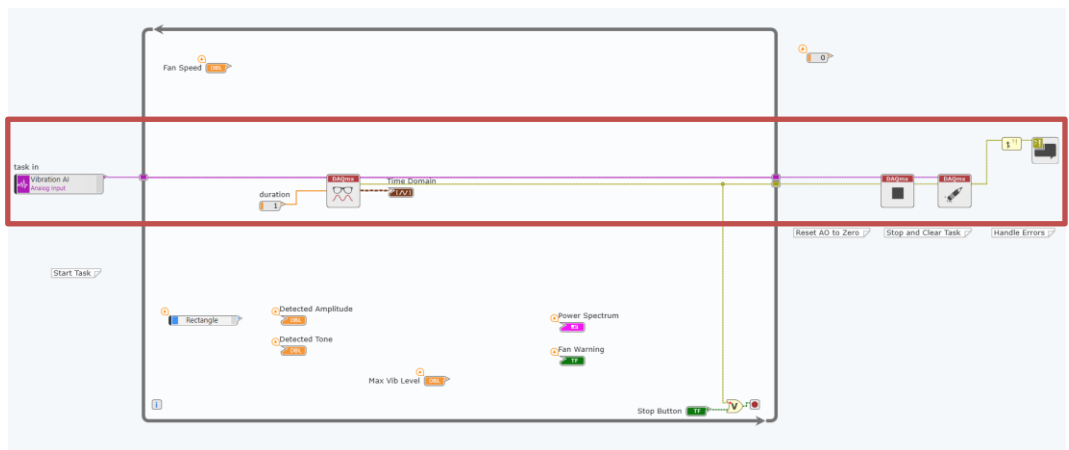

Figure 7-14 Wiring the task and error wires through dictates the flow of your code.
32. Wire task and error wires through the code as in Figure 7-14. This will pass the task values and any errors that may arise through the code. The Retain First Error and Display Error functions at the end of the program will then display any errors that may have occurred during operation to the user.